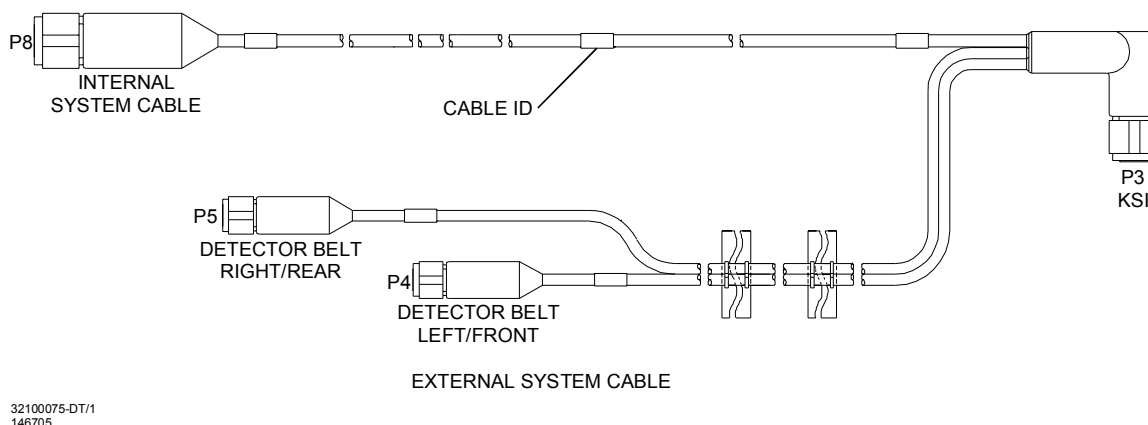

Figure 2-18. External System Cable.
2.3.2.6 External System Cable. (See Figure 2-18.)